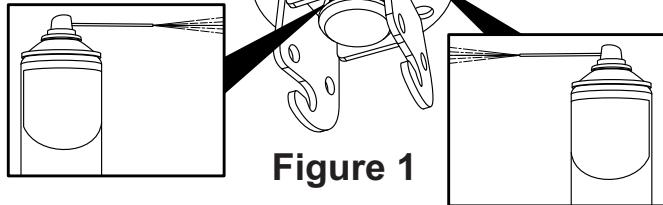

Figure 1
2. Spray silicone lubricant underneath the swing arm on the bearings and pin. See Figure 1.